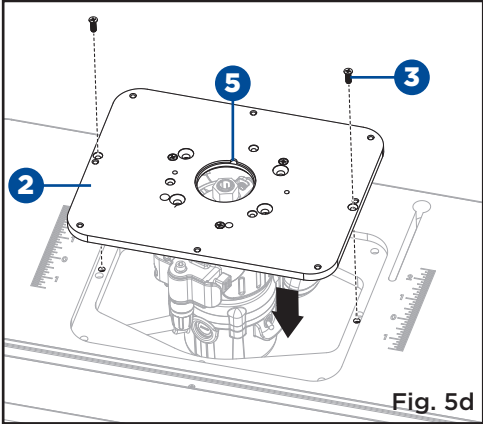
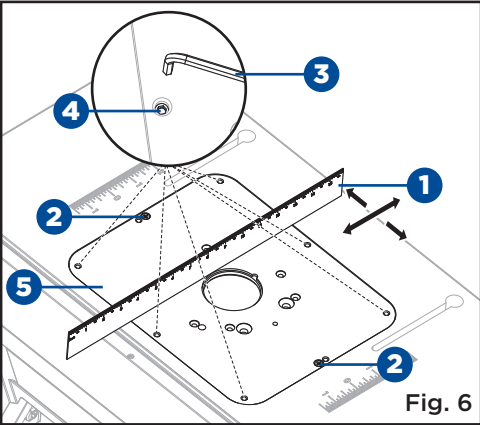
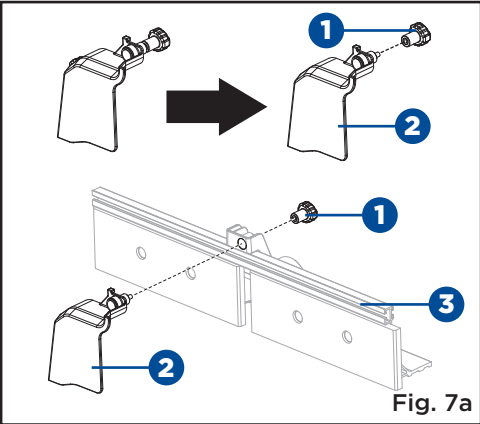

Fig. 5d
Fig. 6
Fig. 7a
**INSTALLING THE ROUTER/INSERT PLATE ASSEMBLY (Fig. 5d)**
- Install the insert plate screws (3) and leave loose until all adjustments have been made.
**MAKING INSERT PLATE LEVEL (Fig. 6)**
- Check to see if the insert plate mounted assembly is level with a straight edge or level (1).
- Loosen insert plate screws (2).
- Using the supplied hex key (3), tighten or loosen the adjusting screws (4) depending on how the insert plate (5) needs to be adjusted in order to make the insert plate level.
- Tighten insert plate screws (2) with a screwdriver.
**ATTACHING THE FENCE ASSEMBLY (Fig. 7a-7b)**
- Loosen and remove the bit guard lock knob (1) from the bit guard (2). (Fig. 7a)